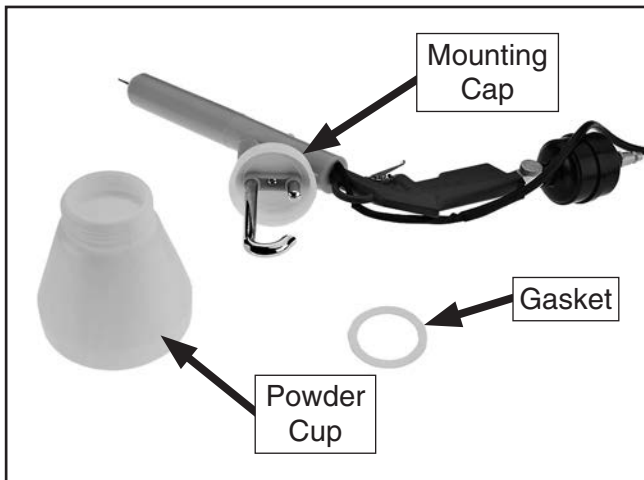

Figure 11. Powder cup components.
3. Make sure the powder cup, gasket, and mounting cap components (see **Figure 11**) are dry and clean of any powder or debris.